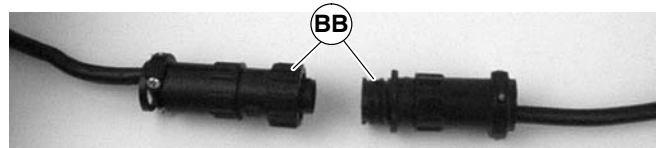

Figure 32
3. For DC variable speed motor, unplug motor cord at disconnect (BB of Figure 32).